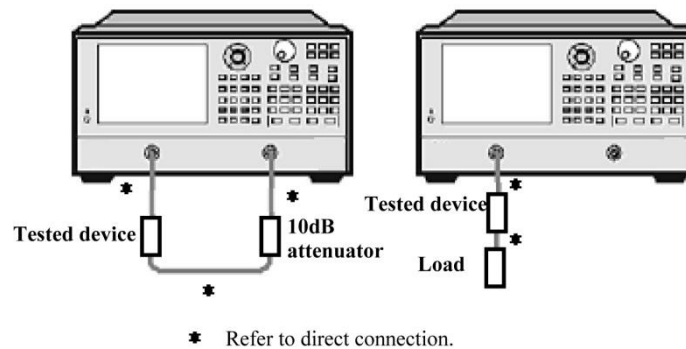

Fig. 8.10 Connection in Impedance Measurement
- 3) Connector shown in Fig. 8.10 for S_{11} or S_{22} measurement.
- c) Move the marker along the trace to read the conductance and susceptance component of the complex admittance of the data point, in siemens (S).